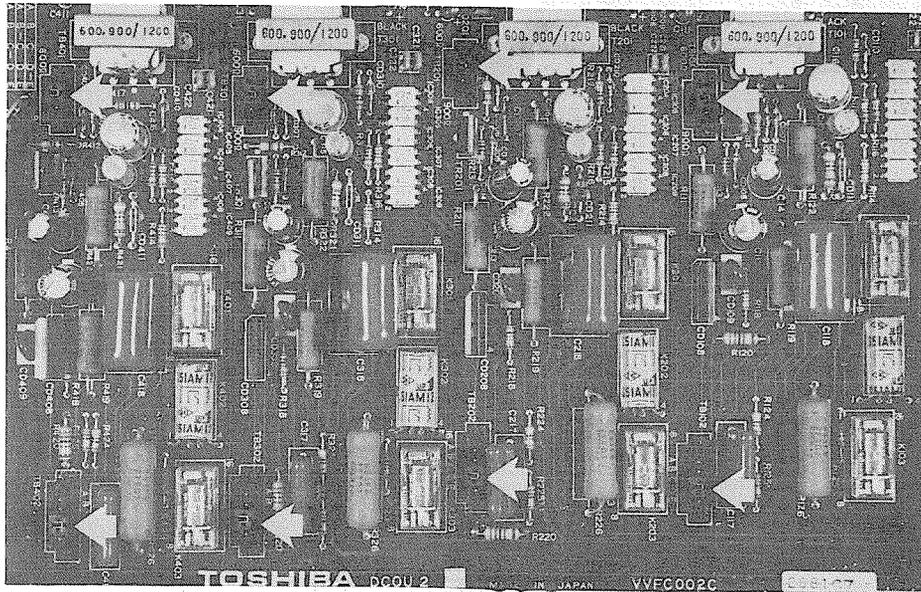

FIGURE 21—DCOU PCB
a) Ground/Loop Start selections are made individually for each of the four circuits using the strapping terminals (Figure 21).
- e) 600/900-ohm termination selections are made on an individual circuit basis using the strapping terminals (Figure 21).